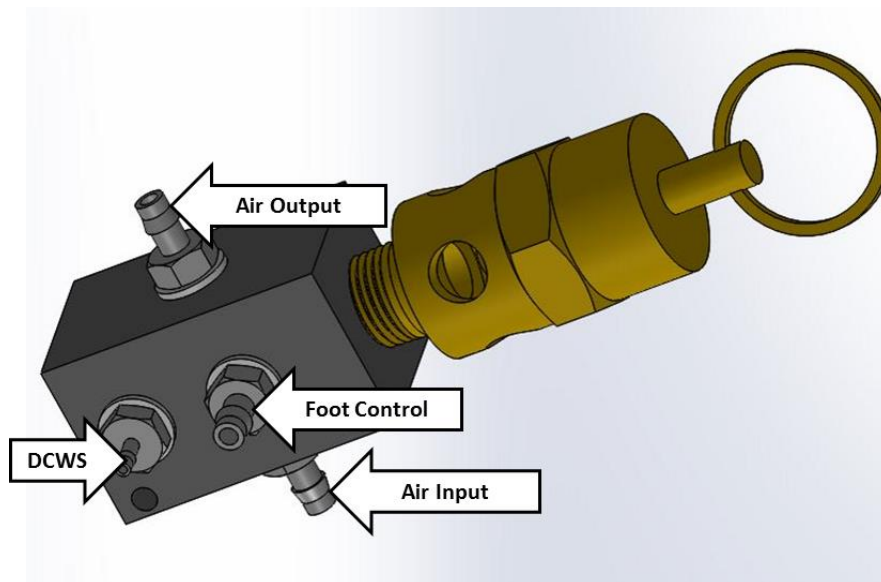

Fig.5
4. Installing the new safety relief valve according to Fig. 5.